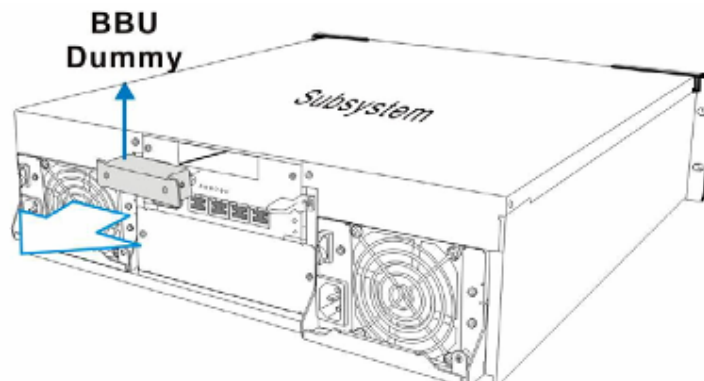

Figure 2-13: Removing the BBU Slot Dummy Plate
- Step 3.** Once the retention screws are loosened, gently retrieve the dummy plate out of the enclosure. (See **Figure 2-13**)